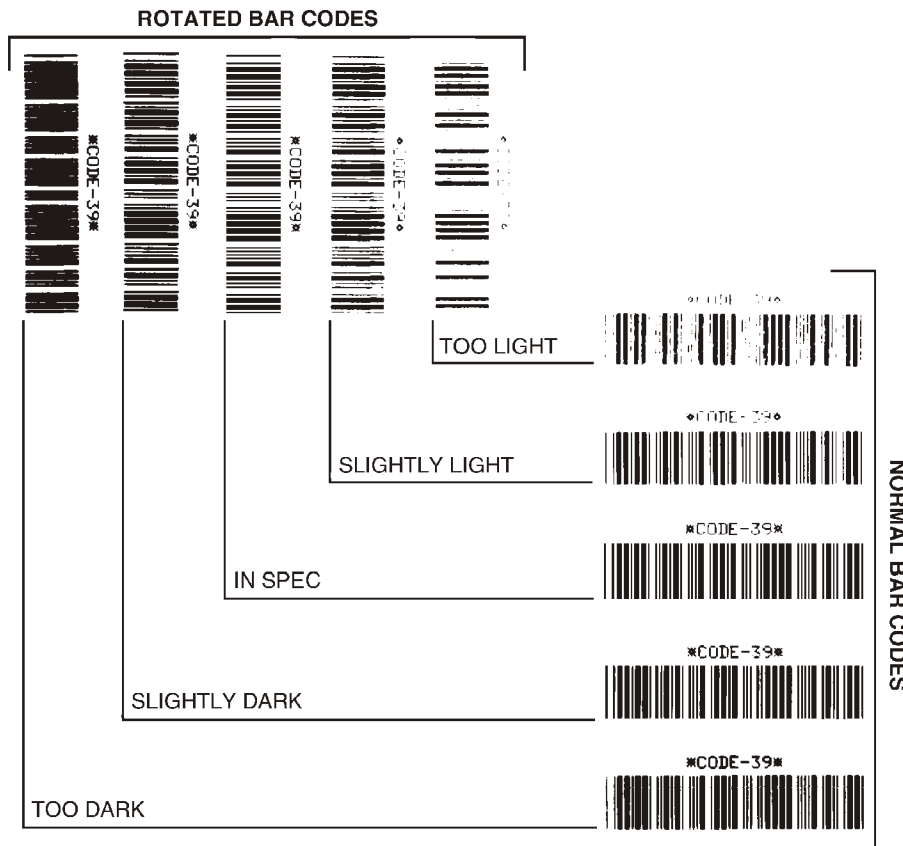

Figure 25. Bar Code Darkness Comparison
- 4 Compare the test label printed to the bar codes in Figure 25 on page 84. If the test label appears too dark or too light, refer to “Configuration and Calibration” and increase or decrease the darkness setting accordingly.